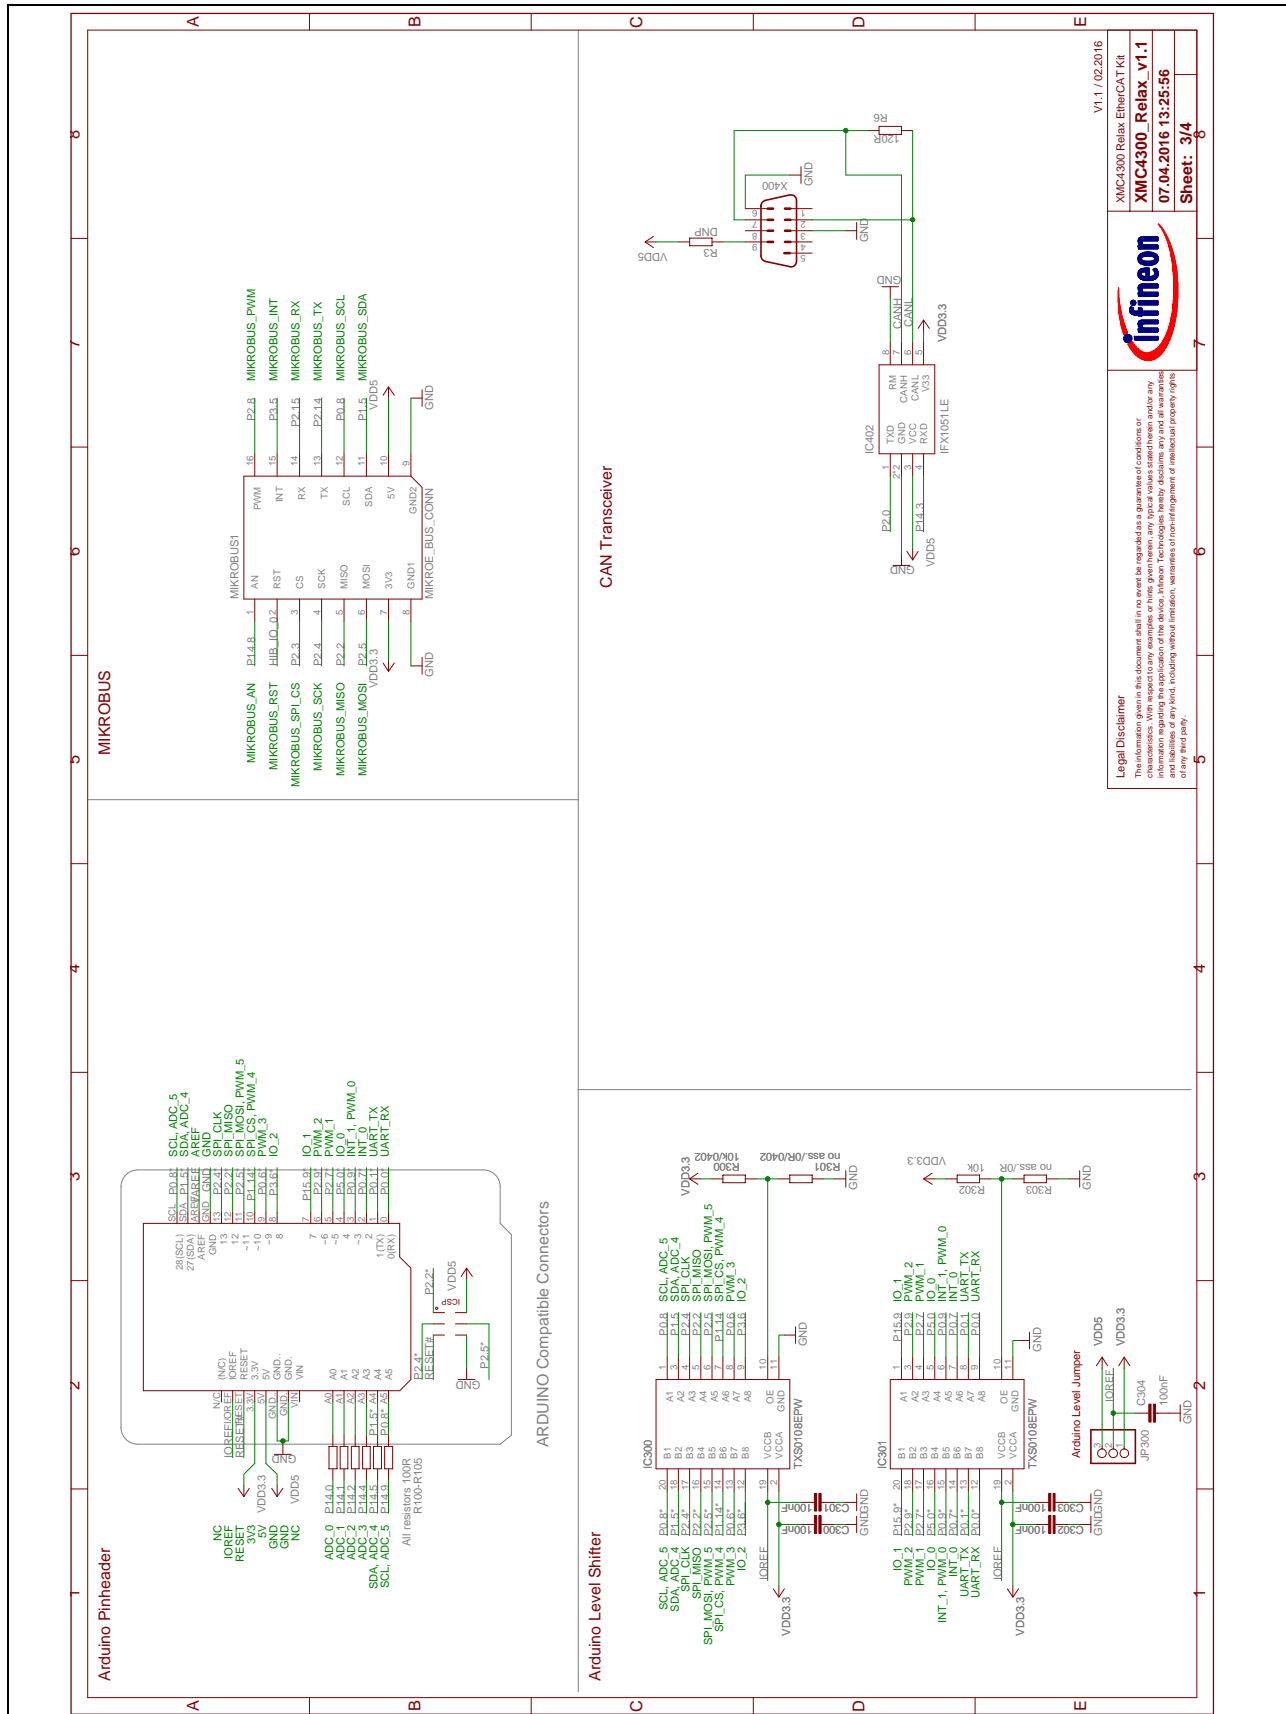

Figure 9 Schematic: Arduino, mikroBUS, CAN
- Figure 9: Schematic: Arduino, mikroBUS, CAN